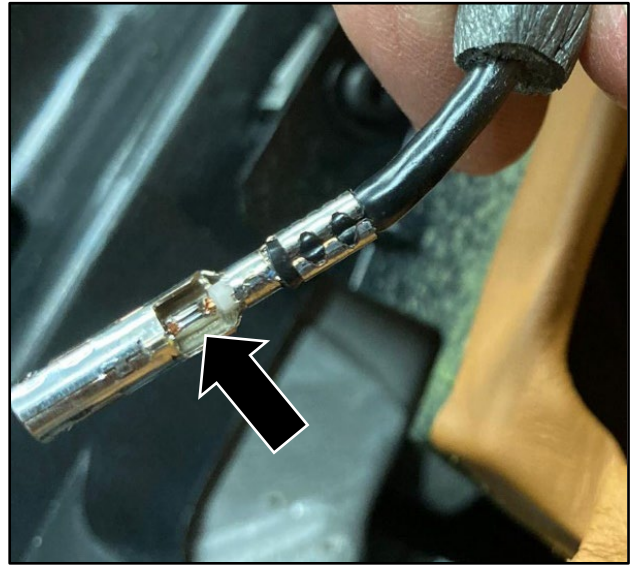

Figure 1
6. Remove the connector from the applicable connector housing (refer to Figure 1).